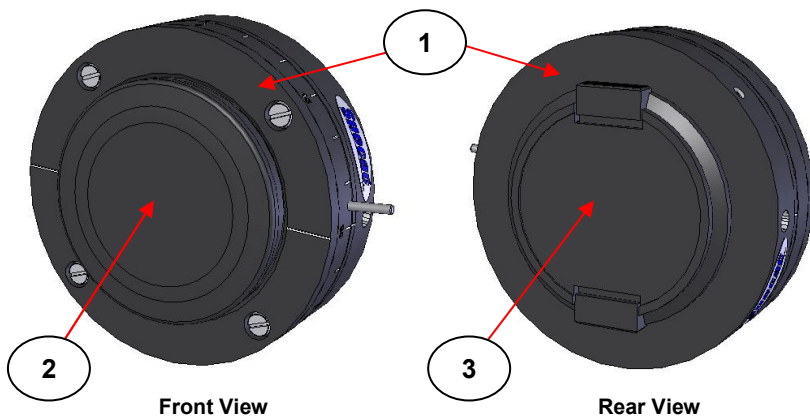

Fig 1. Front and Rear Views of Benchmark™ Rotator Mount P/N GS12510
The GS12510 Series rotator mount (1) can be supplied on its own if ordered as P/N GS12510 for fitting of a 38mm diameter C.A. GS57010 Series polarizer, or will already be supplied with an appropriate size GS57010 polarizer fitted in position if ordered against its specific part number for the complete assembly. Whichever option is supplied the rotator mount (1) will be supplied with a front (2) and rear (3) protective cover which are used for storage and protection of any polarizer when fitted and not in use. Please see Fig 1. to show the front and rear views of the rotator mount for the protective covers as fitted.